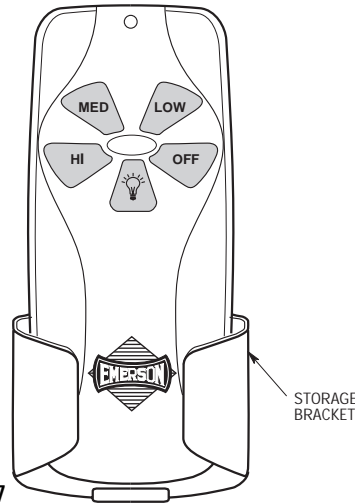

Figure 17
Your remote control (Figure 17) has full control of your fan and light. However, air-flow direction is controlled by a slide switch on the switch housing.
- 2. To set the desired fan speed, press the HI, MED, or LOW buttons to operate your fan on high, medium, or low speed (Figure 17).